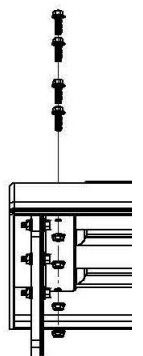

Figure 8
- G. Drill four 5/16" holes through the fender using the holes in bracket PB5071 as a guide (Figure 8).